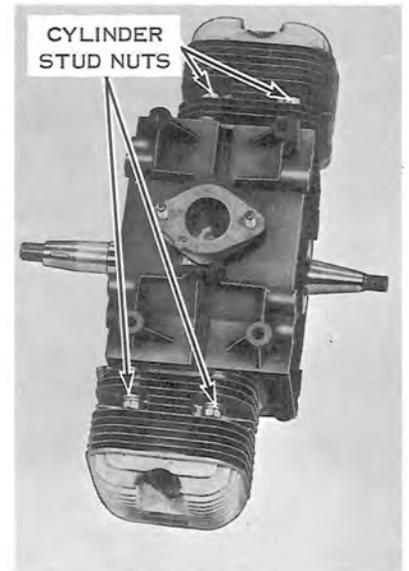

Figure 8-3
- b. Remove cylinder and stud assemblies from crankcase assembly (see Figure 8-3).